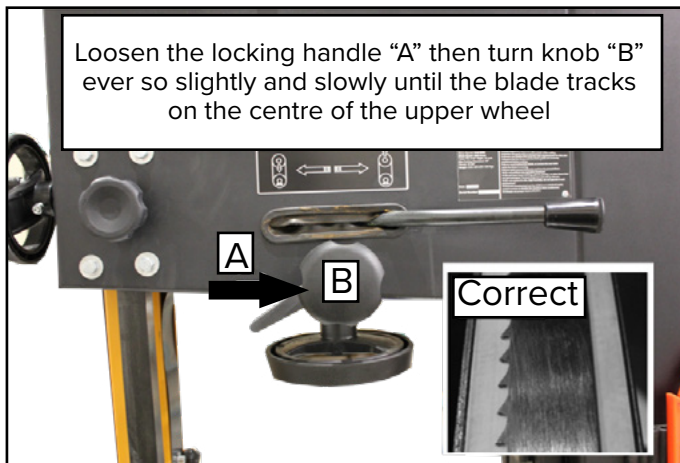

Figure 11: Blade Tracking.
- Loosen the lock lever Fig.11 (A) by turning it counterclockwise.
- Turn the blade tracking knob Fig. 11 (B) clockwise or counterclockwise while manually rotating the upper wheel at least three rotations, or until the blade tracks centered on the wheel.